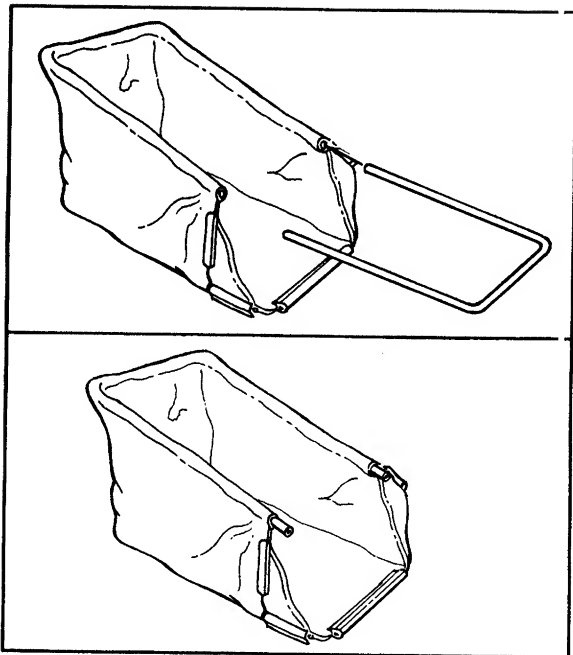

FIGURE 9.
1. Insert one end of the rear frame into the cloth channel on the edge of the grass bag. See figure 9. Feed all the material on one side of the frame before working it around frame.